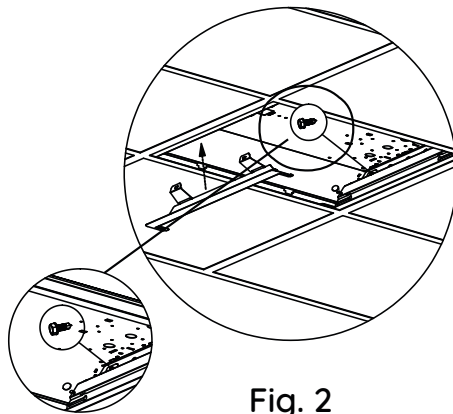

Fig. 2
- 2 Install LED panel end brackets to each end of the fixture by gently lifting recessed fixture and placing LED panel end brackets between the fixture and T-grid. Secure the LED panel brackets to the fixture using the provided #8x1/2" self-drilling screws. Locate the wire terminals on the LED board on the end of the light engine panel that has the wire. (Fig.2)